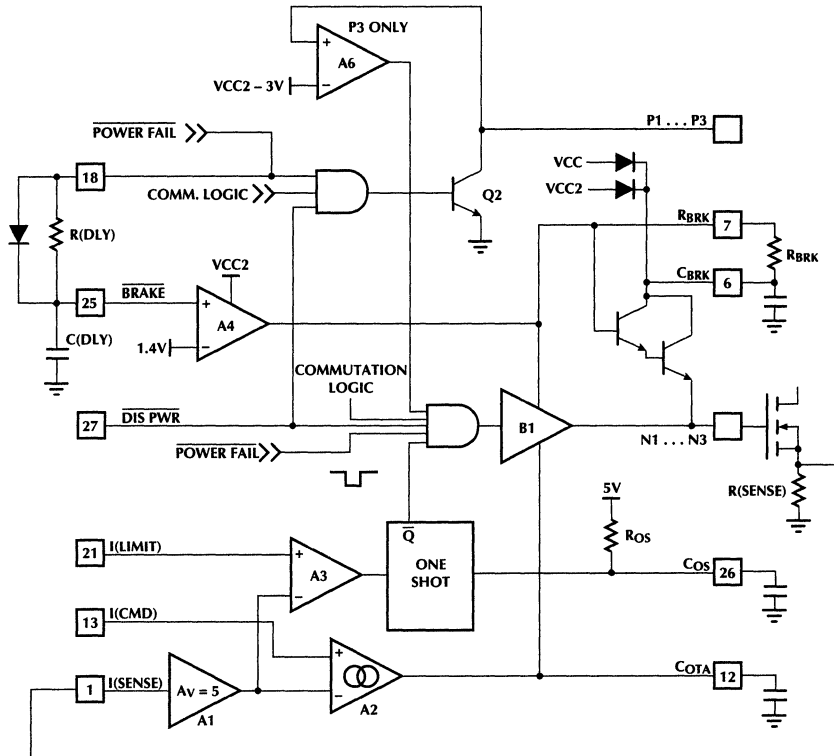

Figure 7. PWM and Linear Current Control, Gate Drive and Braking Circuits
To facilitate speed control, the ML4412 includes two current control loops — linear and PWM (fig. 7). The linear control loop senses the motor current on the I(SENSE) terminal through R_{SENSE} . An internal current sense amplifier's (A2) output modulates the gates of the 3 N-channel MOSFET's.
As shown in Figure 7 the braking circuit pulls the N-channel MOSFET Gates high when the BRAKE pin falls below a $2 \times V_{be}$ threshold (V_{th}). After a power failure, C(DLY) is discharged slowly through R(DLY) providing a delay for retract to occur before the braking circuit is activated. The P-channel MOSFETs are turned off well before braking occurs. As soon as the V_{th} threshold is reached, the braking comparator with hysteresis will accelerate the transition and tri-state the N-channel buffer (B1, refer figure 7) before C(BRK) dump charges into the N-channel Gates. This is to ensure that no charge from C(BRK) is lost through the pull-down transistors in B1, (figure 7). The C(BRK) will continue charging the N-channel Gates, to ensure braking, even when VCC2 (motor BEMF rectified through the MOSFET body diode), drops due to the braking process. An external signal could be used to brake the motor. To accomplish this set pin 17 = '1', pin 19 = '0'. This will pull pin 26 below the threshold to activate the braking circuit.
1. When transitioning from mode 0 to mode A (see table 1) P3 goes from on to off at the same time N3 goes from off to on. If P3 turns off slowly and N3 turns on quickly, cross conduction may occur. This condition has been prevented inside the IC on the ML4412 through the addition of comparator A6 on the P3 output (Fig. 7).